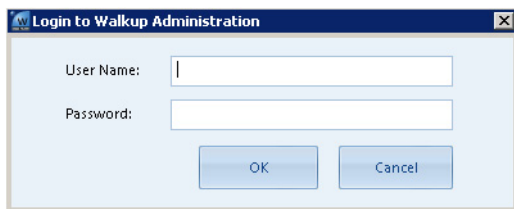

Figure 20 Login to Walkup Administration dialog box
- 2 Type your **User Name** and **Password** in the **Login to Walkup Administration** dialog box (see Figure 20).